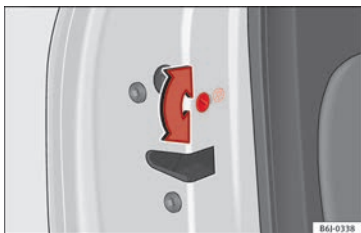

Fig. 145 Childproof lock on the left hand side door.
- With the door open, rotate the groove in the door using the ignition key, anti-clockwise for the left-hand side doors »» **Fig. 145** and clockwise for the right-hand side doors.
- With the door open, rotate the groove in the door using the ignition key, anti-clockwise for the right-hand side doors, and clockwise for the left-hand side doors »» **Fig. 145**.